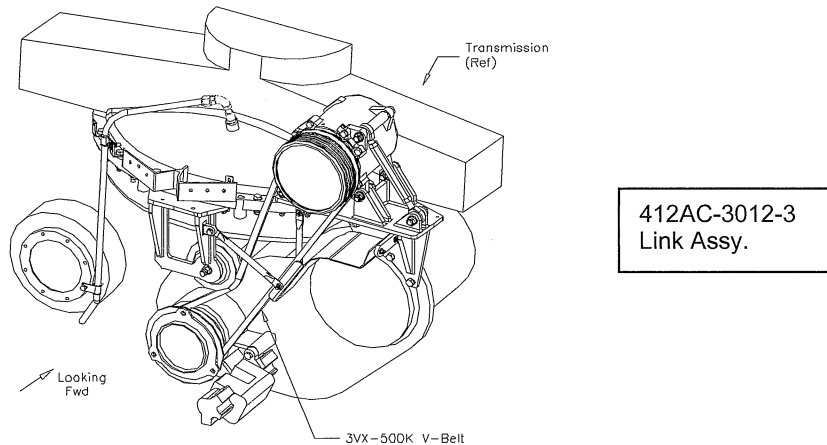

Figure 1.1
2. Remove the safety wire from the 412AC-3012-3 Link Assy. and loosen the Jam Nuts at the base of the Link Assembly Rod Ends. (See figure 1.1)